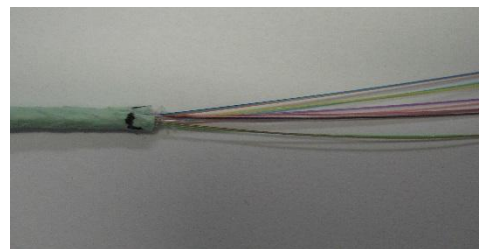

Figure 1
5.5 Separate and organize fiber bundle strands and assemblies. At the point where the strands exit the nylon sub-unit, carefully arrange them so they are not crossed and carefully separate them along their entire length. **See Fig. 1**